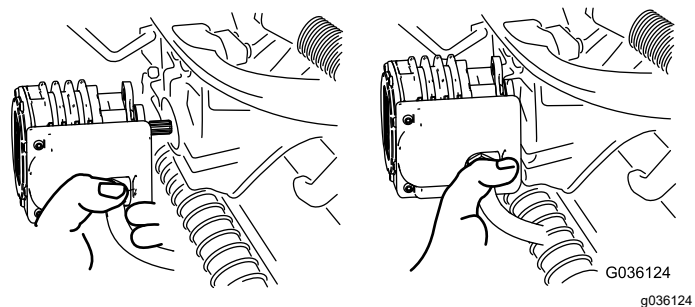

Figure 72
5. Move the motor to the storage location on the front of the suspension arm (Figure 72).